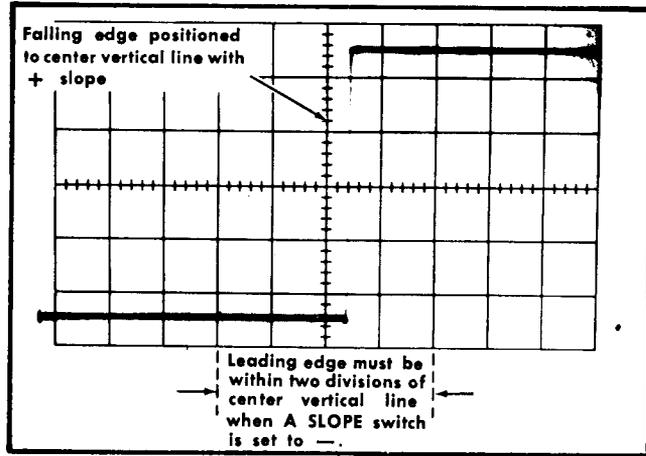

Fig. 5-29. Typical CRT display when checking calibrator duty cycle.
g. CHECK-50% point on rising edge now displayed not displaced more than two divisions from the center vertical line (duty cycle 49% to 51%; see Fig. 5-29).